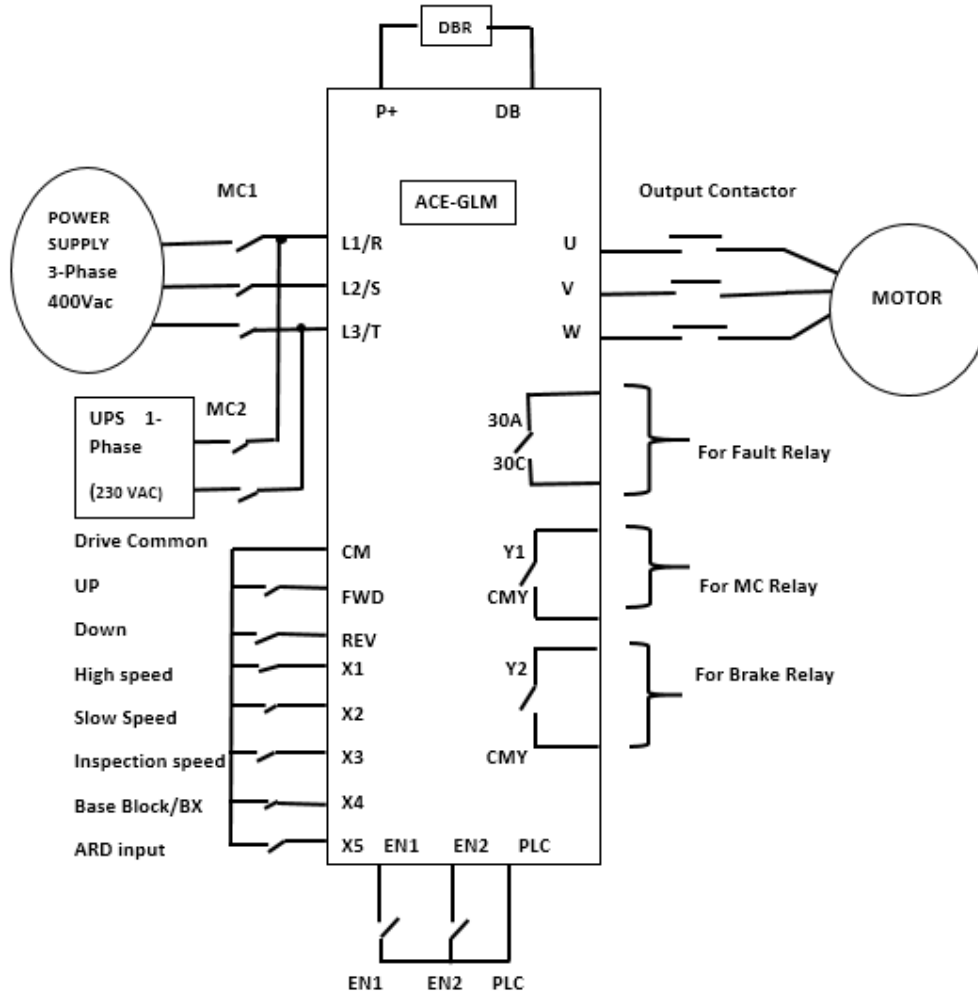

Figure 1. Power and control Connection diagram of ACE-4GBLM3 (default: sink Mode)
2.1 Dedicated elevator function of ACE-4GBLM3: Figure 1 shows connection diagram of ACE-4GBLM3 with details of power terminal and control terminal.